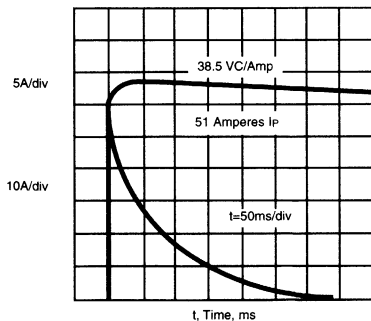

Figure 1
- Superior clamping performance. Fig.1 displays the very low impedance and resultant tight clamping characteristics. This implies more protection for the dollar invested.